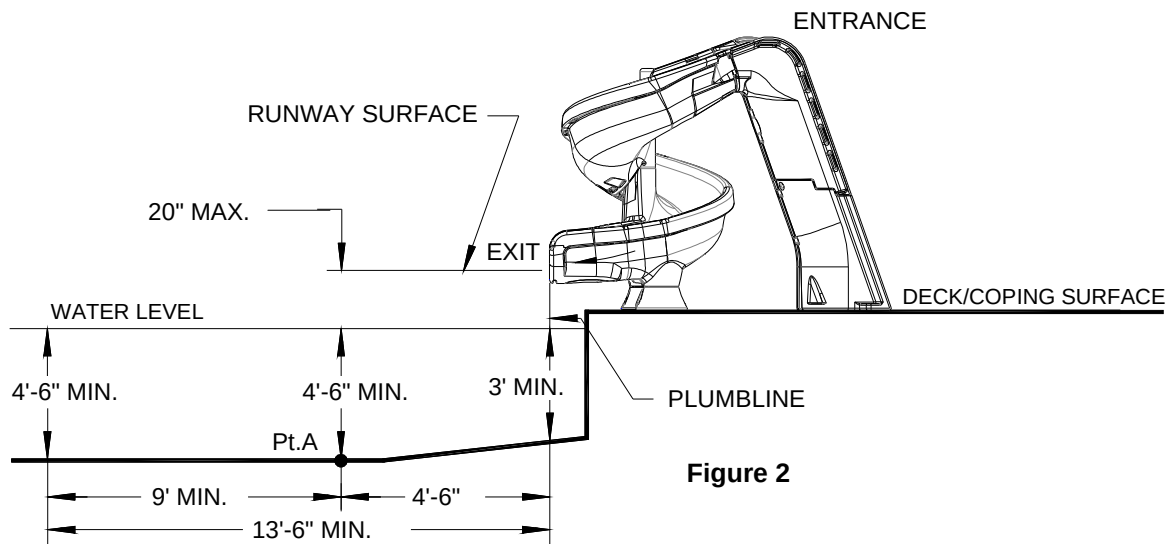

Figure 2
5. Observe the position of the exit of the slide as shown in Figures 2, 3 and 5 on pages 6 and 7.
1. The critical dimensions for placement of the **Helix** slide are as shown in Figures 2 and 3.
- A. The slide exit runway surface shall not exceed twenty inches (20") above the water surface as shown in Figure 2.
- C. The minimum depth of water below the exit lip of the slide shall be three feet (3') and increases to four feet six inches (4'-6") at Pt. A, which is a distance of four feet six inches (4'-6") from the exit lip of the slide as shown in Figure 2.
- D. A minimum depth of four feet six inches (4'-6") shall be maintained at a distance of nine feet (9') along the extended centerline of the slide from Pt. A. as shown in Figure 2.